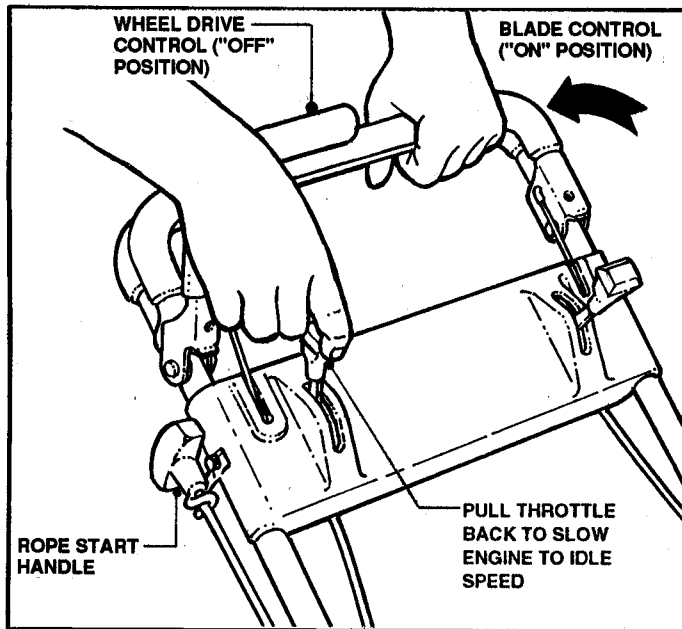

FIGURE 2
- **ENGINE: STOP ENGINE** by releasing the **BLADE CONTROL**. See Figure 2.
3. Pull **ROPE START HANDLE** until engine starts. Refer to Figure 2.